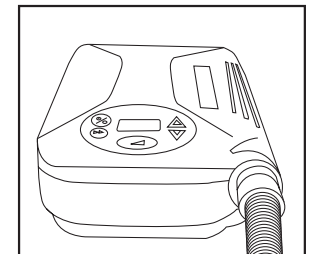

Figure 6
- Connect the 6-foot length of 22 mm diameter tubing to the outlet port on the front of the unit (**Figure 6**). This is the port from which CPAP air supply is provided.